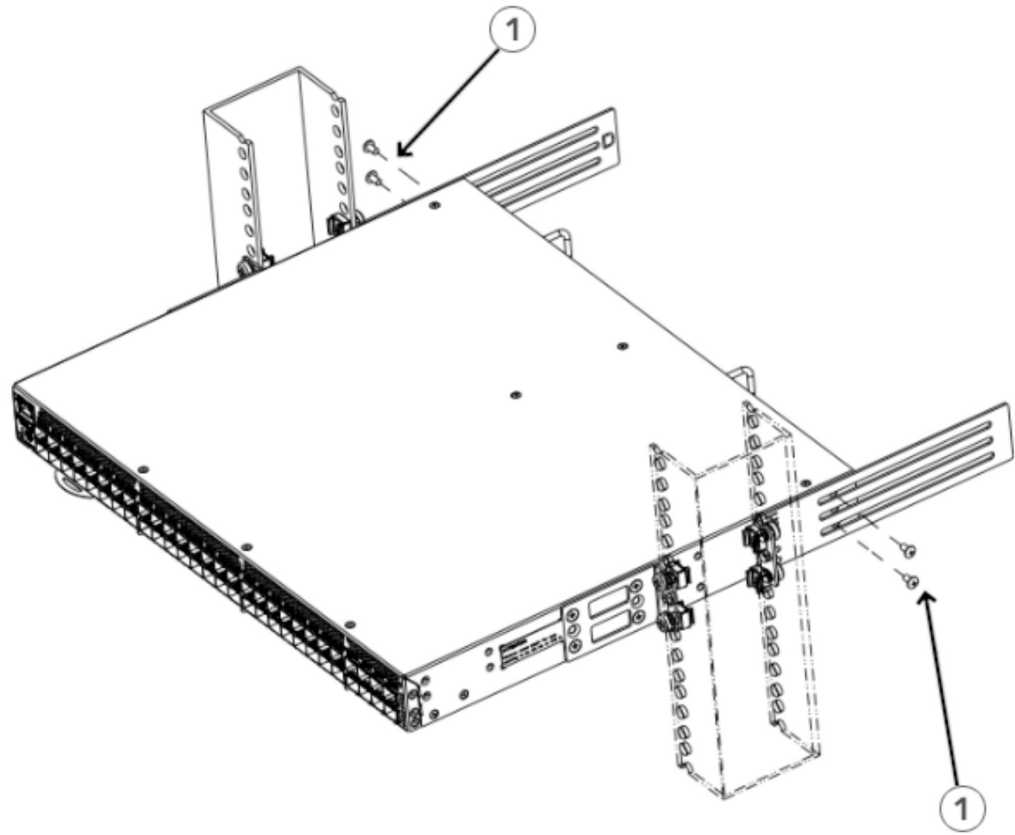

Figure 23. Attaching the Rear Brackets to the Device
1. Align the right rear bracket to the right rear of the device, and use four 8-32 x 5/16-in. panhead screws to attach the bracket to the device, as shown Figure 23. Be sure to insert the screws through the upper and lower slots in the bracket.